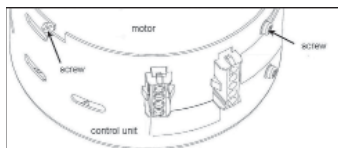

Figure 7a
2. Loosen two screws securing the motor and control unit together. Twist the control unit and pull away from motor until both units are separated [Figure 7a].